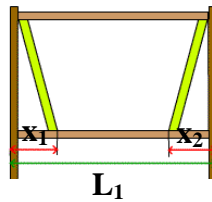

Figure 5
4.7 Exterior clearance	<p>In a real building, every level has openings for doors and windows. In this competition, for each level of the model, at least half of its perimeter must be left clear of any materials. Therefore, for every floor, the total breadth of projection of bracings or inclined columns (x_1 and x_2 in Figure 5) must not exceed half of the floor's perimeter. It</p>
4.7.1 In Figure 5 (side view), the column spacing is L_i (including the column widths), and the projection length of the bracing is x_i (including the width of the bracing).